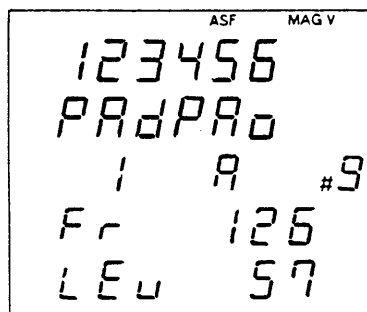

Fig.40 Function #9 Screen
1. Press [#] and [9]. Filter numbers are displayed on the top line in the secondary function #9. See Fig.40. When the unit is first turned on after installation, four A's and two P's are displayed on the second line, indicating that the receiver is using Automatic notch filter operation and that two notch filters are Preset ones.